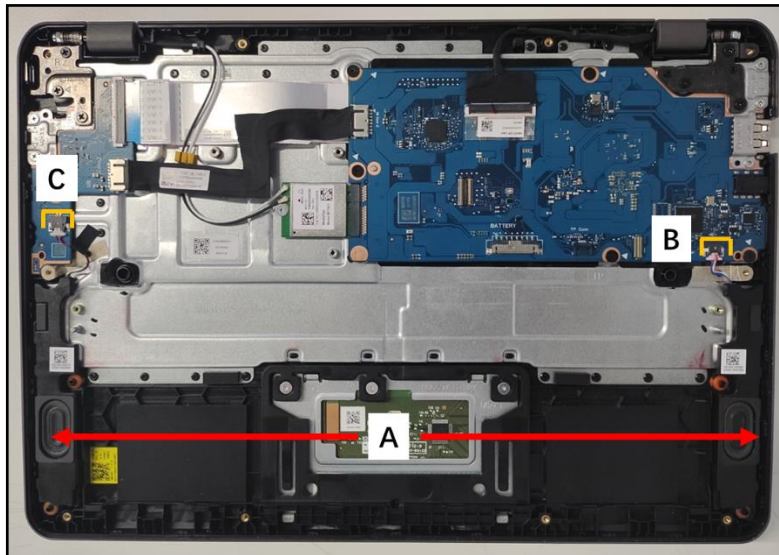

Figure 3-19. Speaker Module Removal
1. Find the speaker module (A) on the top assembly (Figure 3-19).
2. Disconnect the left speaker cable from the mainboard connector (B) (Figure 3-19).
3. Disconnect the right speaker cable from the mainboard connector (C) (Figure 3-19).